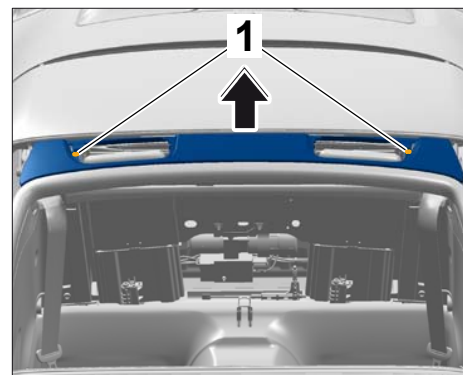

Figure 3
- 3.2 Unscrew fastening screws ⇒ *Figure 3 -1-* on cover for roll-over protection system.
- 3.3 Unclip the cover and remove it by pulling it upwards ⇒ *Figure 3 -arrow-*.